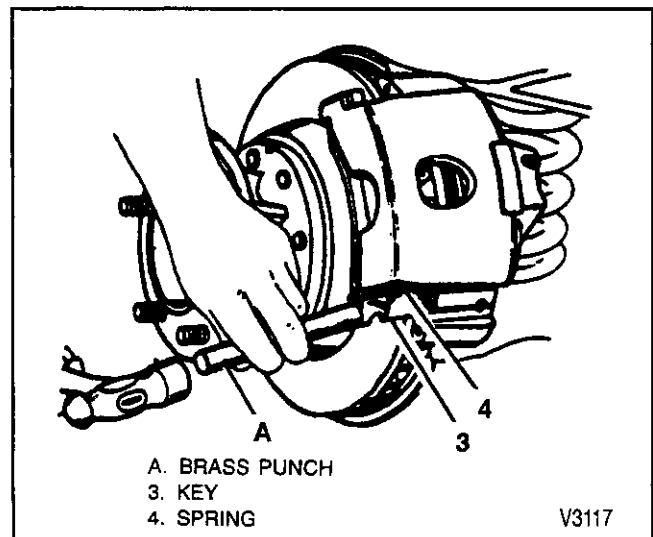

Figure 20—Installing the Caliper Support Key
3. Spring (4) and support key (3).
- Use a brass punch and hammer to drive the support key in place (figure 20).
4. Bolt (2).
- Bolt (2) to 20 N·m (15 lbs. ft.).